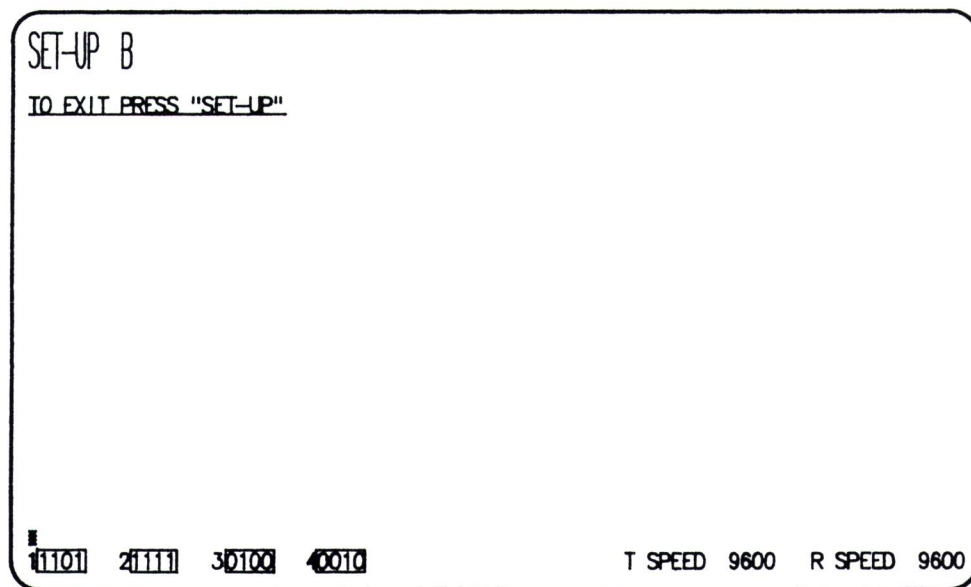

Figure 2-10
- 4) If the screen does not look exactly as shown in Figure 2-10, strike the 0 (zero) key, which is used in SET-UP to reset the parameters to their default state. If the VT-100 screen does match the figure, strike SET-UP to exit.
Repeat steps 2 and 3 and again compare your screen to the Figure 2-10 starting point.